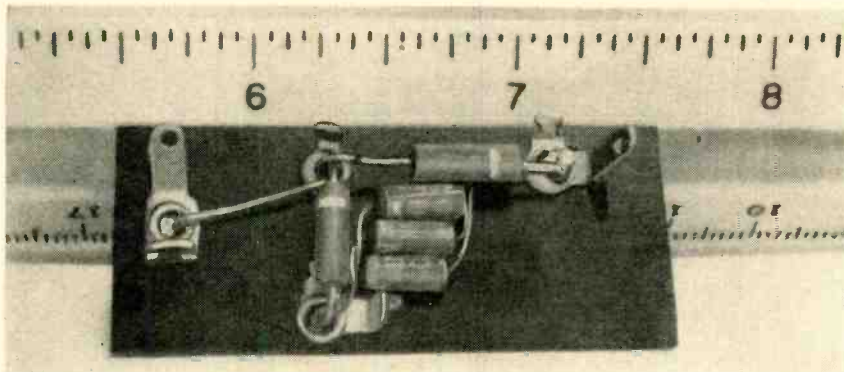

Fig. 1—Internal layout of Chromatic Probe.
**T**HE Simpson Chromatic Probe (Fig. 1) converts r.f. and i.f. sweep and signal generators for the video sweep requirements of color TV receiver circuits. The probe was de-